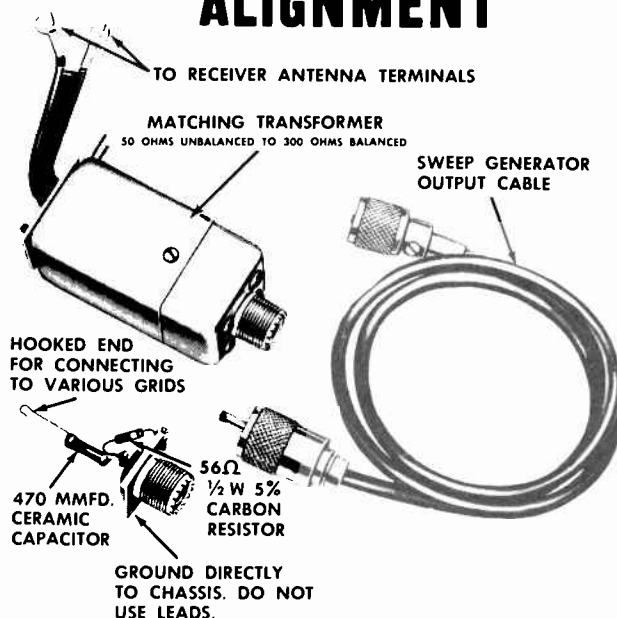
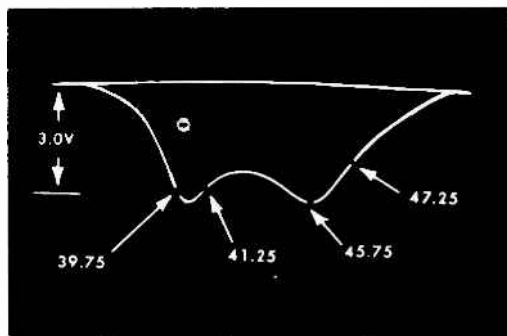
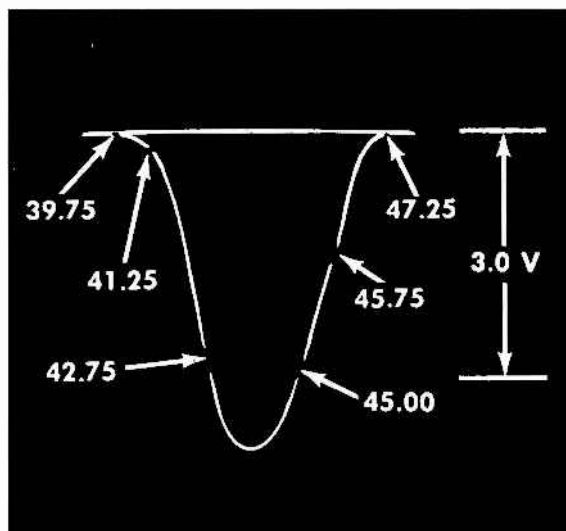

Fig. 4 IF-RF Alignment Fixtures
Fig. 5 4th IF Response
Fig. 12 Overall IF Response
3. Feed the sweep generator through the special terminating network shown in Fig. 4 to point "G" (Pin 1 of the 3rd IF). Adjust generator to obtain a response similar to Fig. 5 with a detector output of 3 volts peak to peak. Do not exceed this level during any of the adjustments.
4. Set the marker generator to 45.75 Mc and alternately adjust the top and bottom cores of the 4th IF for maximum gain and symmetry with the 45.75 Mc marker positioned as shown in Fig. 5. The two peaks must be equal in height and the high frequency peak
3. Feed the sweep generator through the special terminating network as shown in Fig. 4 to point "G" (Pin 1 of the 3rd IF). Adjust generator to obtain a response similar to Fig. 12. Do not exceed the 3 volt peak to peak detector output during any of the following adjustments.
6. Disconnect the jumper between "E" and the 68 and 1500 ohm cathode resistors. Connect this jumper between "E" and chassis. Adjust sweep generator for 3 volts peak to peak output. Alternately adjust the 2nd, 3rd, 1st IF and the converter plate coil until an overall response similar to Fig. 12 is obtained. It will be found that the 2nd IF affects the low side (42.75 Mc) and the 3rd IF the high side of the response. Remove jumpers after alignment.